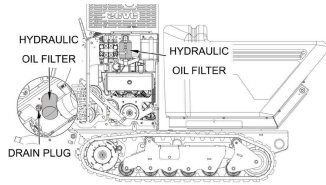

Figure 6-8. Hydraulic Oil Filters & Drain Plug
4. Place a suitable container under the reservoir drain plug and remove the reservoir fill cap. Remove the drain plug and allow for all of the used oil to drain into the container. See Figure 6-8.